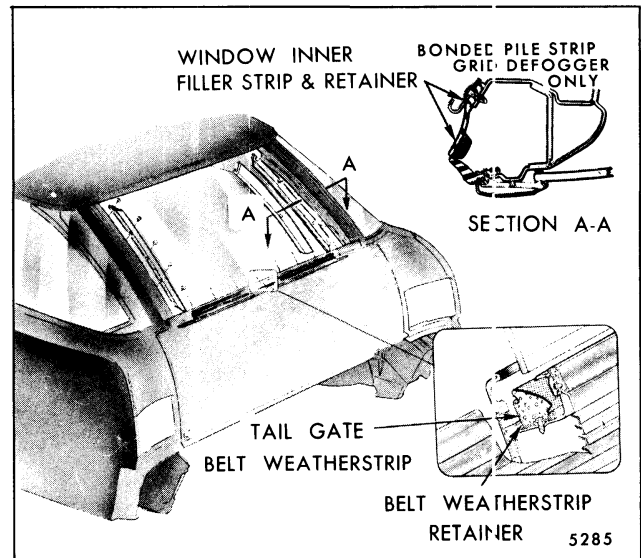
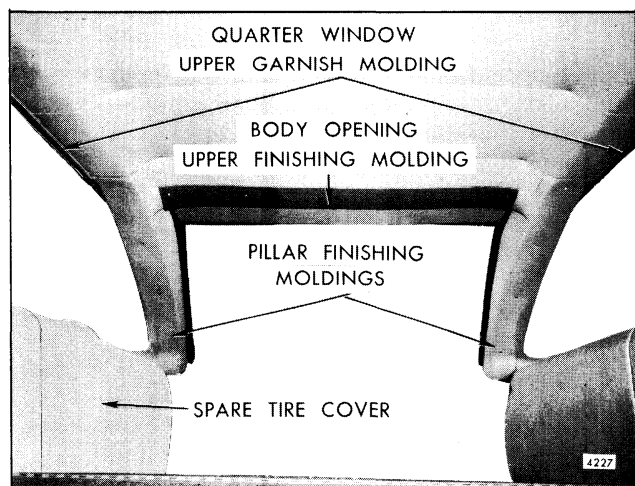

Fig. 7-85-Tail Gate Belt Weatherstrip and Window Inner Filler Strip
Fig. 7-86-Body Rear Finishing Moldings
The tail gate belt weatherstrip is cemented to an adjustable (fore-aft) metal retainer which is fastened to the top of the tail gate by screws (Fig. 7-85). A strip of closed cell nitril foam tape is positioned between the retainer and the top of the tail gate to prevent water entry beneath the retainer. Approximately 2 inches of belt weatherstrip extends beyond each end of the metal retainer. This section of weatherstrip (each end) is secured directly to the tail gate by cement and a single screw.
1. Remove screws securing end of weatherstrip to tail gate and with flat-bladed tool, carefully remove weatherstrip from its retainer (Fig. 7-85).
A black rubber filler strip is used at the inboard surface of each back body pillar above the beltline and serves to conceal the window supporting hardware (Fig. 7-85). On styles equipped with tail gate window grid defogger option, the lip of the filler strip incorporates a bonded pile strip in the area of glass contact to protect grid defogger lines from abrasion during glass cycling. A metal retainer is positioned over the heel of the filler strip and secured to the pillar with screws. A pillar finishing molding is applied over the filler strip and the inboard edge is tucked into the filler strip retainer. A plastic, color-keyed, filler strip is used at the top of the body opening (Fig. 7-86).
1. Remove back body pillar and/or upper body opening finishing molding (Fig. 7-86).
2. Remove screws securing inner filler strip section and remove filler strip (Fig. 7-85, Section A-A).
1. Remove finishing moldings from right and left pillars, from upper section of back body opening and remove upper and right side inner filler strips (Figs. 7-85 and 7-86).